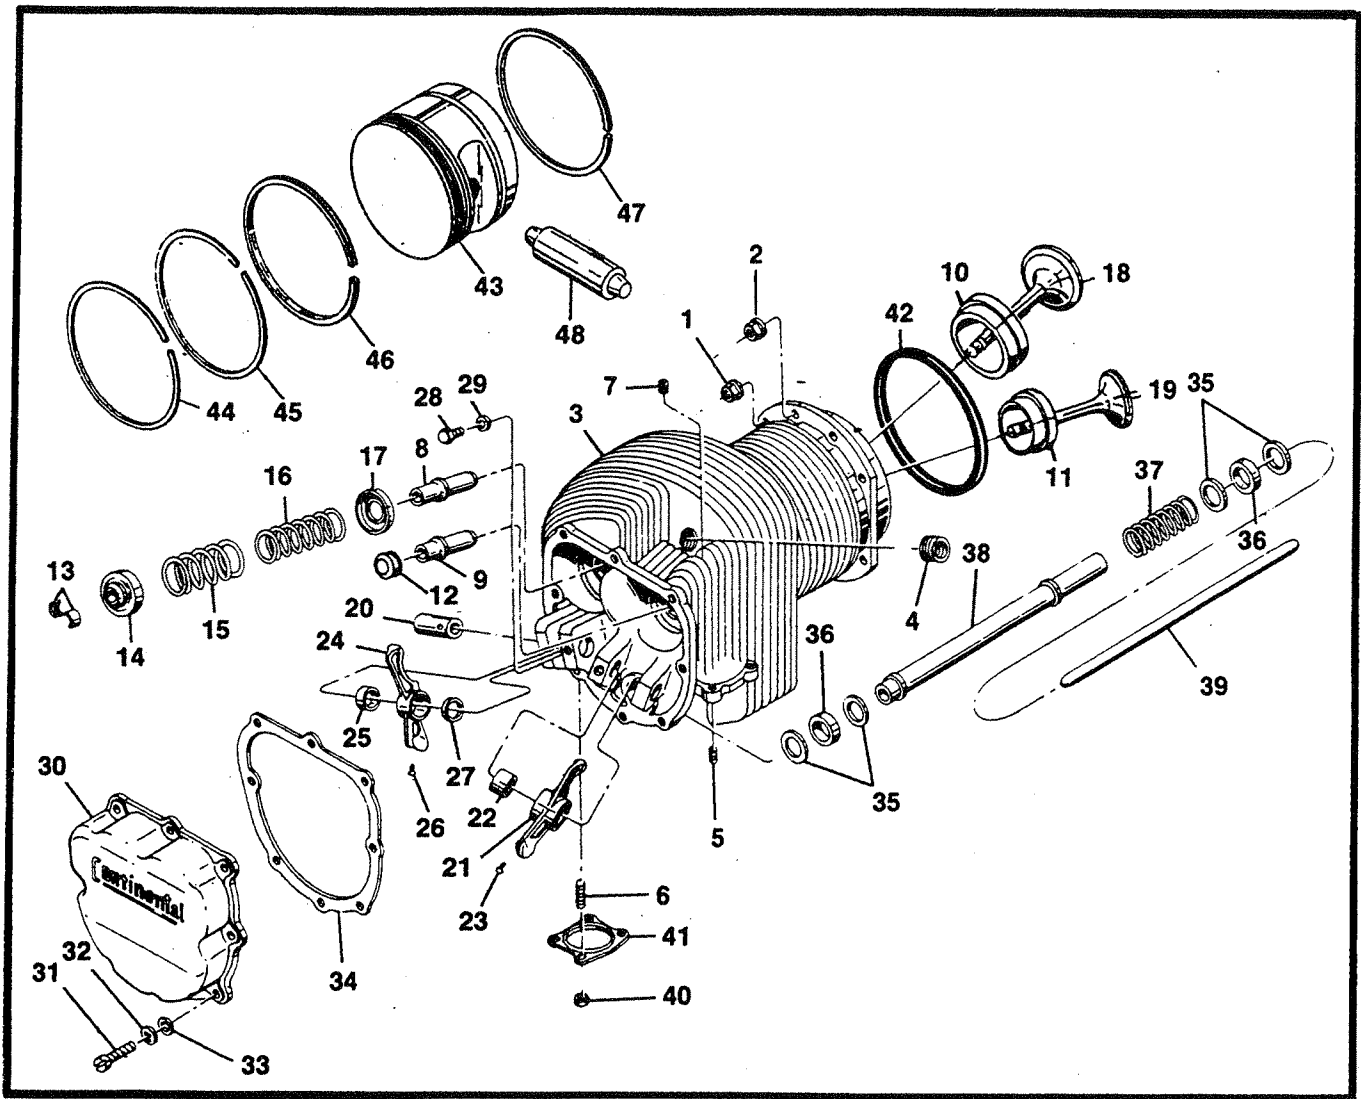
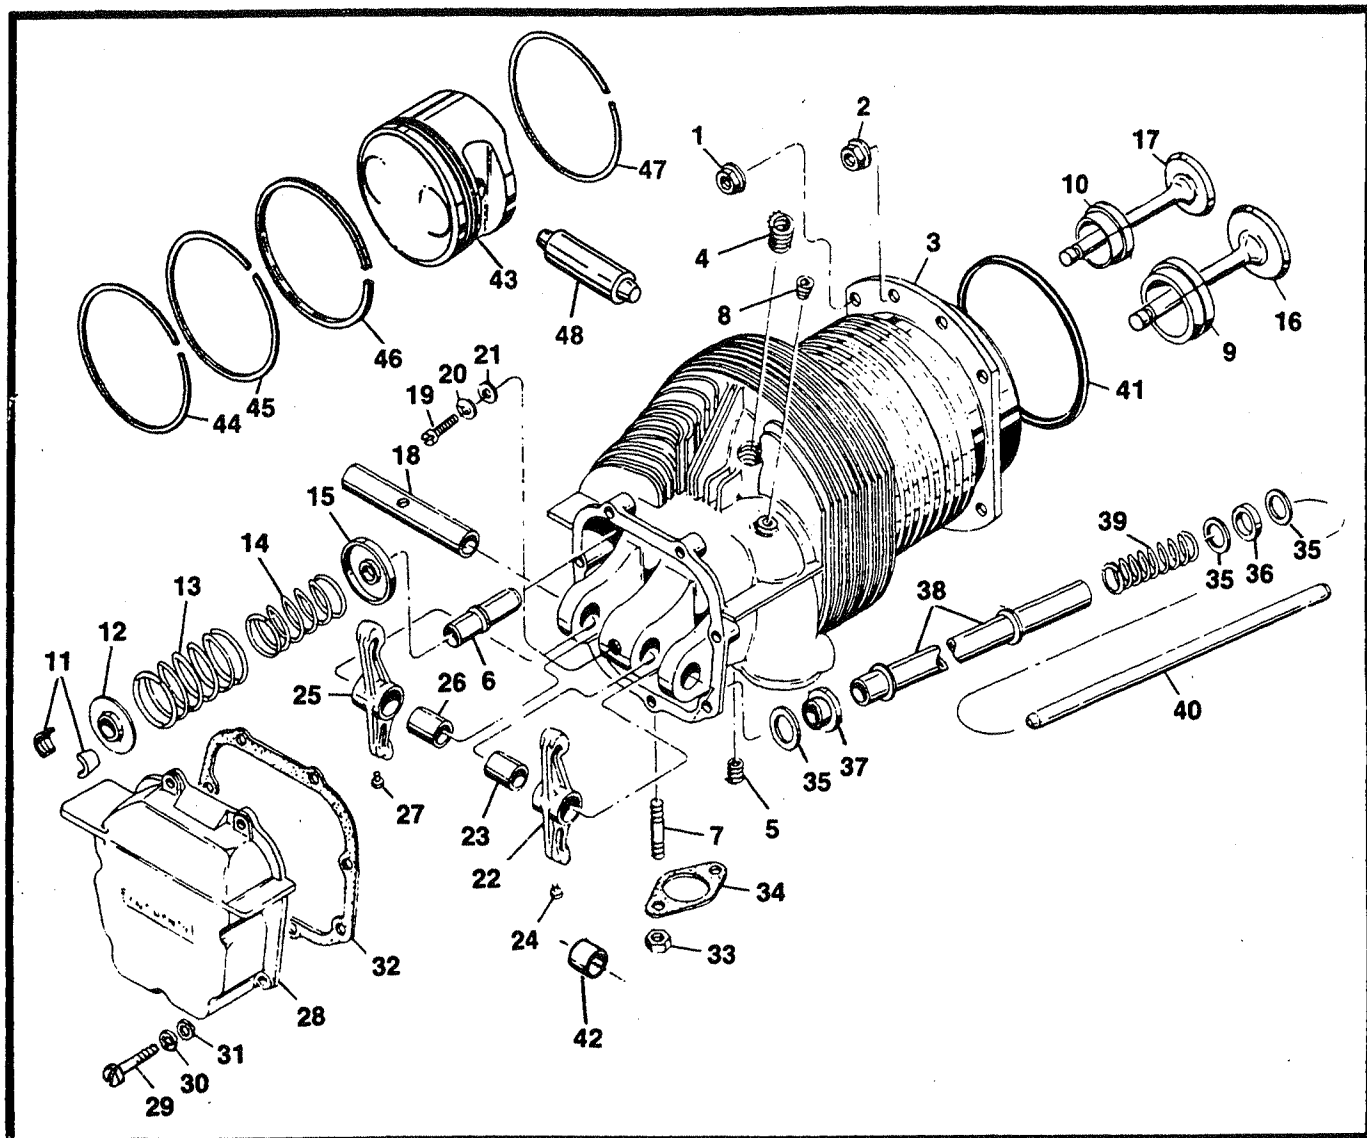

FIGURE 72-10-14A. CYLINDER ASSEMBLY (INCLINED VALVE) ALL EXCEPT O-470-A,E, & J.
FIGURE 72-10-14B. CYLINDER ASSEMBLY (STRAIGHT VALVE) O-470-A,E,J.
72-10-14 CYLINDERS (See Figure 72-10-14A, Inclined Valve or 72-10-14B, Straight Valve).
- B. Remove the oil dipstick and rocker cover attaching hardware (31, 32, 33, Figure 72-10-14A, Inclined Valve) or (29, 30, 31, Figure 72-10-14B, Straight Valve). Using a rubber mallet, gently tap and remove the rocker covers (30 or 28).
- D. Remove the rocker shaft retaining bolts (28) or bolts (19) as applicable.
- E. While holding the lower ends of both rockers (21, 24) or (22, 25) inward, push the rocker shafts (20) or shaft (18) as applicable, out to free the rockers and remove them. Withdraw both pushrods (39) or (40). Repeat the process on the other cylinders.
- F. To remove each pushrod housing (38), push it toward the crankcase against its spring (37, 39) until the outer end is clear of the cylinder hole, lift the outer end away from cylinder and remove housing, spring, steel washers and seal. A spring compressor that may assist pushrod housing removal can be purchased from Burroughs Tool Corporation. See Section 1-20-00 Tools for details.
- J. Turn the crankshaft until piston in cylinder being removed is at top dead center. Remove the base nuts from the three top attaching studs and through bolt. Cradle the cylinder in either arm, and withdraw it straight. Catch the piston with the other hand as the cylinder skirt comes off, and lower it carefully. Remove piston pin (48 or 47) and piston (43) with rings (44, 45, 46, 47) as an assembly. Remove rings (44, 45, 46, 47) from piston (43). Be careful not to score piston with ring ends.